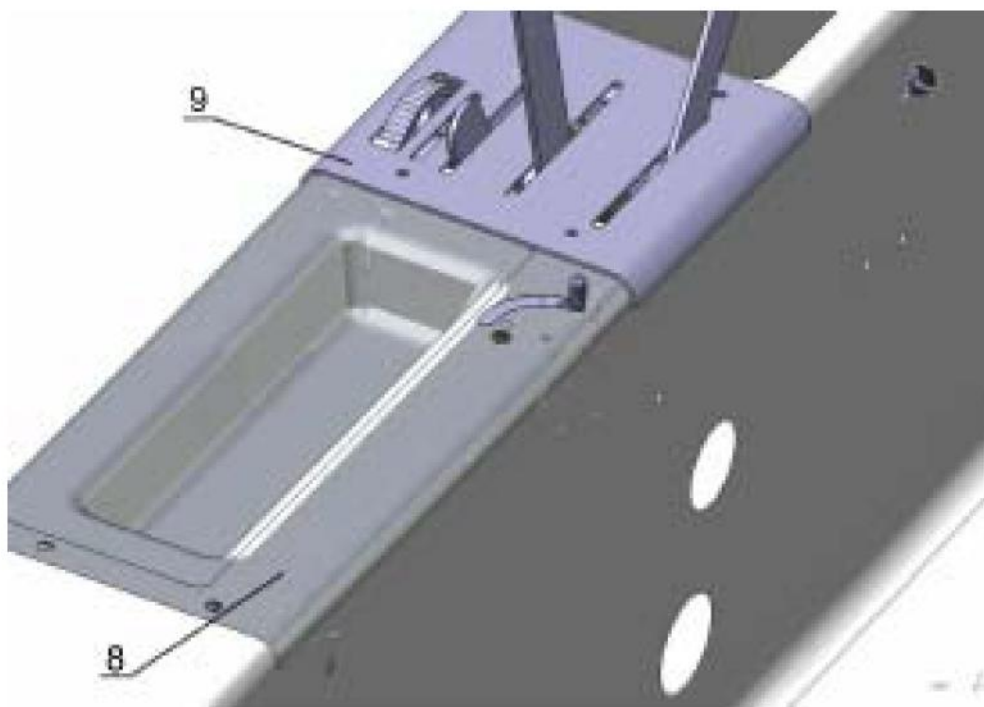

Fig 4
Before inspecting remove tunnel panels item 8, 9 fig. 4.